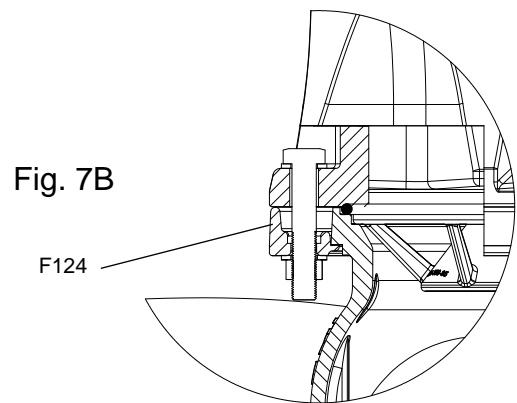
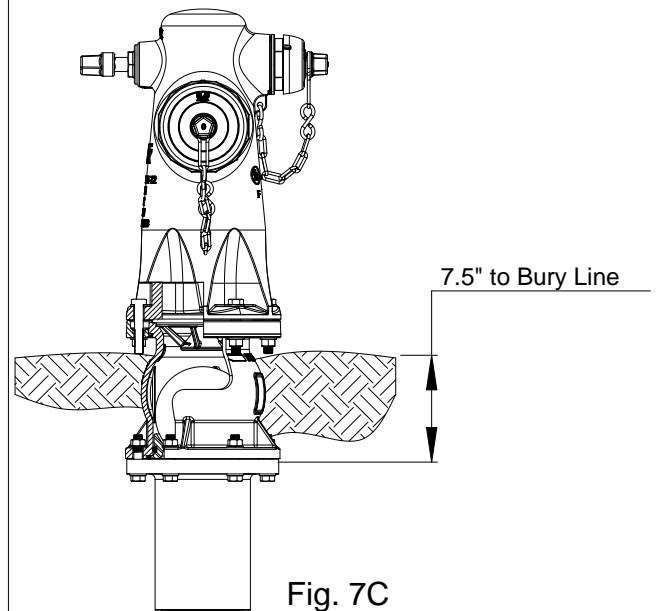

Fig. 7B
Fig. 7C
7. Carefully mount the Wet barrel assembly onto the FlowGuard II assembly with the Breakable Flange (F124) and mount with the mounting hardware as shown in Fig. 7B and Fig. 7C.